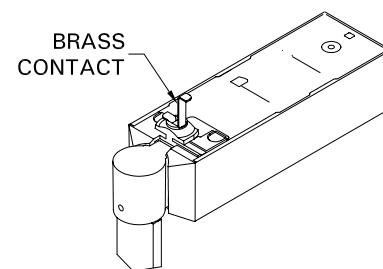

FIG. 4
1. Raise BRASS CONTACT to high position by pulling CONTACT as high as stop permits (See FIG. 4).